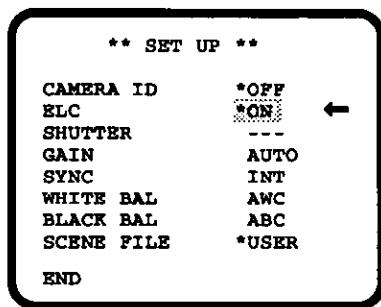

Fig.29.
- Confirm that "ELC ON" is selected by the "ELC" mode menu and "---" is displayed on the "SHUTTER" mode as shown in Fig.29.